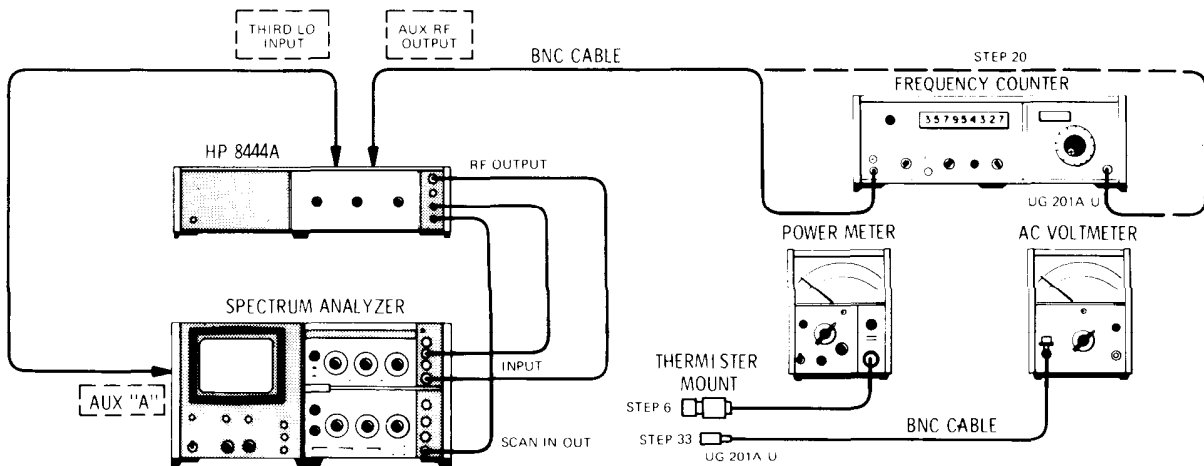

Figure 4-1. Output Level Accuracy Test Setup
2. Connect test setup as indicted in Figure 4-1 and make the following control settings: